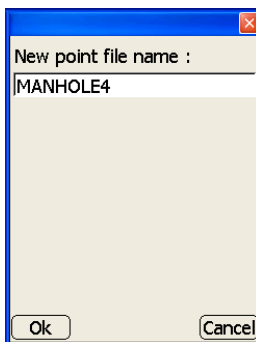

Figure 3-81. Name New File
- New – creates a new file in the *New point file name* dialog box. After naming the file press **Ok** to save the information (Figure 3-81).
- **Rename** – opens the *New point file name* dialog box (Figure 3-81 on page 3-53) for changing the name of the selected file.
- **Save As** – opens the *New point file name* dialog box (Figure 3-81 on page 3-53) for saving the selected file as another file.